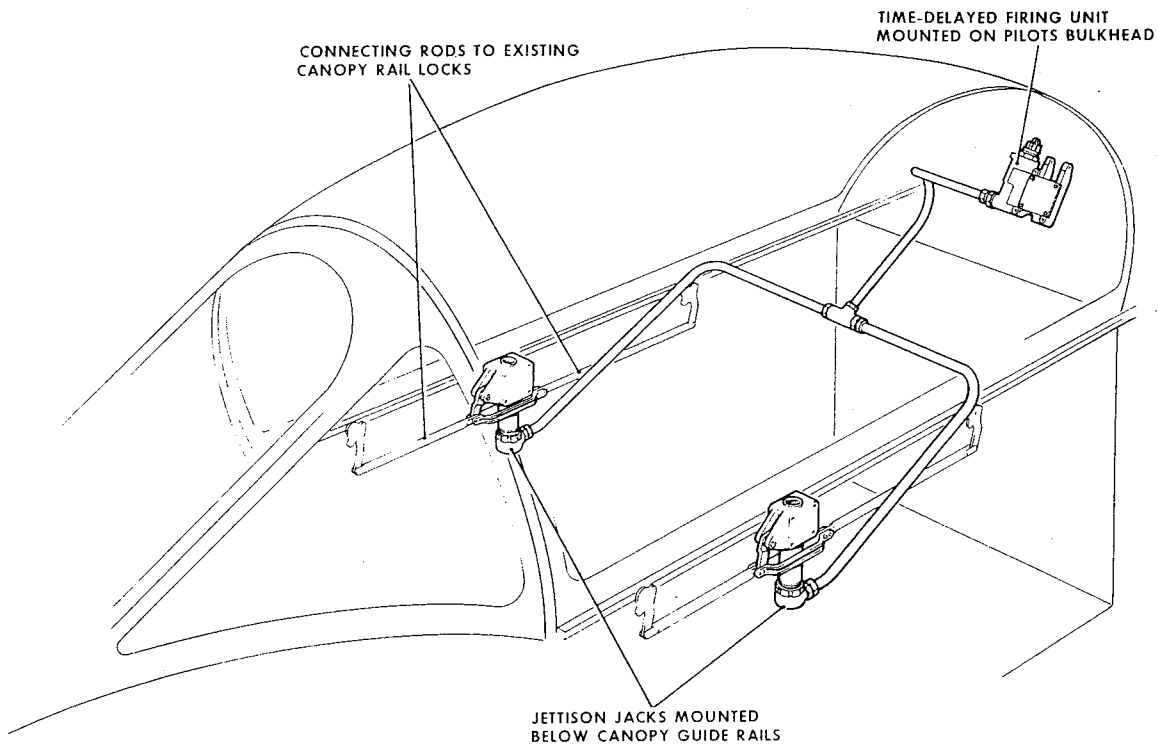

Fig 1 Diagrammatic layout of canopy jettison system
1 The canopy jettison system (fig 1) of the Hunter F Mk 6, F(GA) Mk 9, FR Mk 10 and GA Mk 11 aircraft, comprises a canopy jettison and time-delayed firing unit and two jettison jacks connected by pipes. The jettison jacks are located towards the front of the canopy below the guide rails and are interconnected with the canopy locks. The canopy jettison and time-delayed firing unit is described in AP 109C-0201-15F.